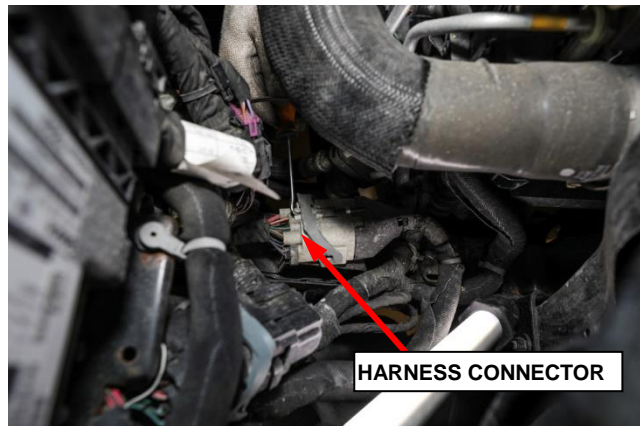

Figure 8 – Harness Connector
22. Disconnect the main wiring harness (Figure 8).